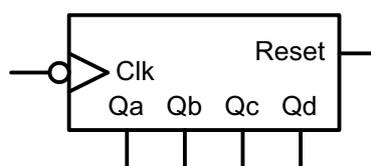

Fig. 1(c)
- (iii) Two modifications have been suggested for the wind speed circuit shown in **Fig. 1(b)**. Using electronic circuit diagrams on the blank pro forma provided (**answer number 1(c)(iii)**), show how the following design modifications could be made.